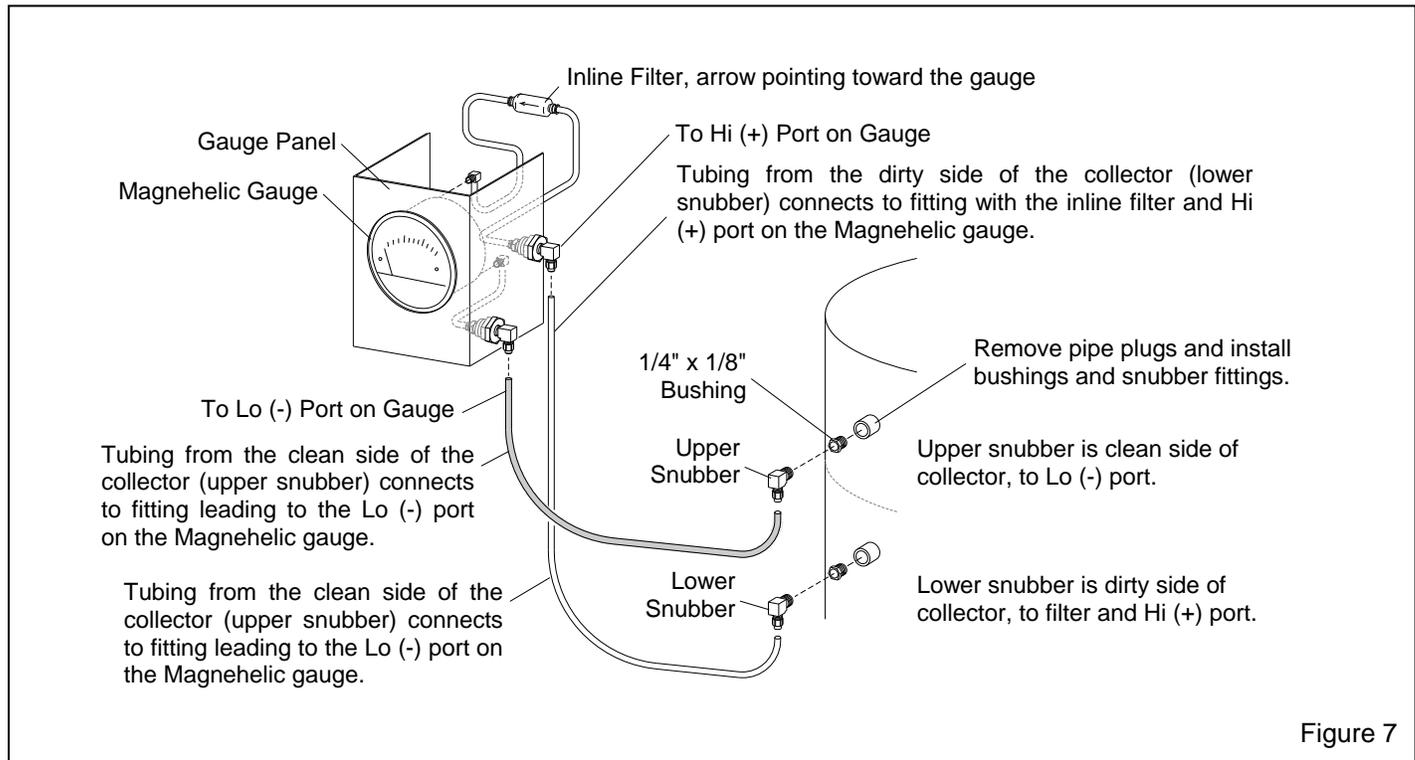

Figure 7
and tubing are loose. Mount the panel on the cabinet or power module at a location where it can be easily monitored. There is not enough room on a Pulsar 55se to mount it at the front of the cabinet, choose another convenient location. Note: A 20-foot length of tubing is included with the kit, allowing the panel to be mounted within ten feet of the dust collector connections, as shown in Figure 7.
3.5.4 Remove 1/4" pipe plugs from the dust collector body, and install 1/4" x 1/8" bushings and snubber fittings as shown in Figure 7.